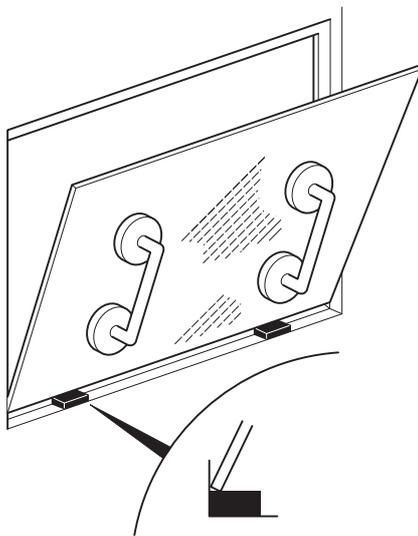

Fig 13.
- b Sit the bottom edge of the glass on the spacer blocks. → Fig 13. (□ B-6)